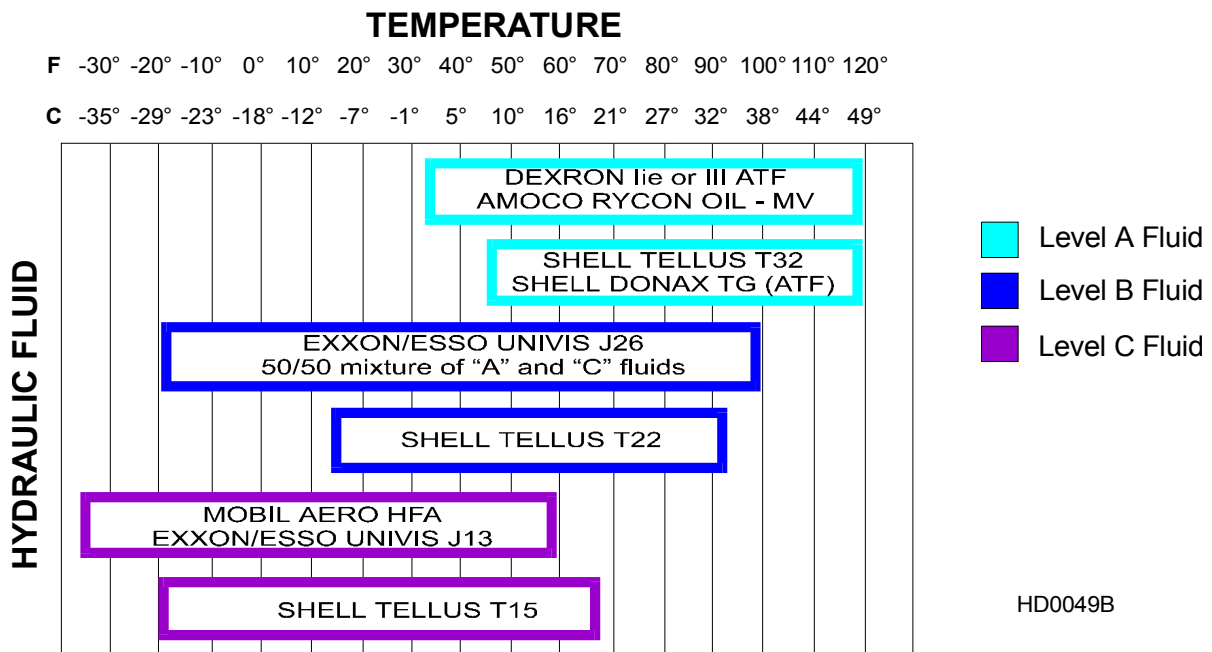

FIG. 3-5
**See Figure 3-5.** If you are operating in temperatures -20° to 100° F (-29° to 38° C), use an all-weather hydraulic fluid such as Exxon Univis J26. For alternate fluids and/or other temperature ranges, refer to the chart below. Operating above the recommended temperature range of a fluid could result in excessive pump wear. Operating below the recommended temperature range could result in reduced hydraulic cylinder speed. To change fluid types, replace one gallon of the current fluid with one gallon of the alternate fluid.